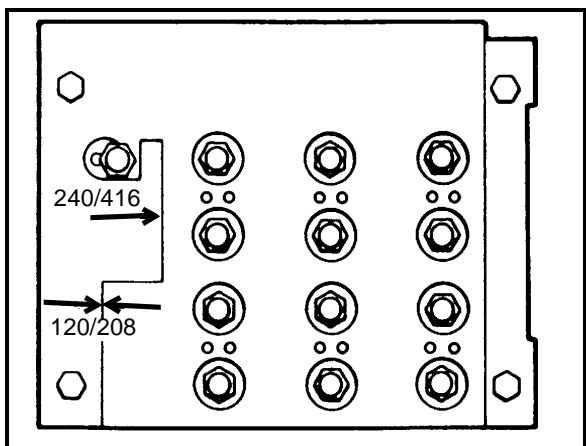

Figure 10-1. Typical changeover board
- Inspect the entire generator set for cracks, breaks, and loose or missing hardware. Inspect all wires and terminals for damage and loose connections. On gas-turbine units, inspect the air-inlet screen assembly and remove obstructions. Inspect the changeover board (*Figure 10-1*) and the phase selector switch (*see Figure 9-6, page 9-5*) for the correct link connections or positioning for the desired voltage. Set the frequency selector switch for the desired frequency output on the 50/60 cycle,